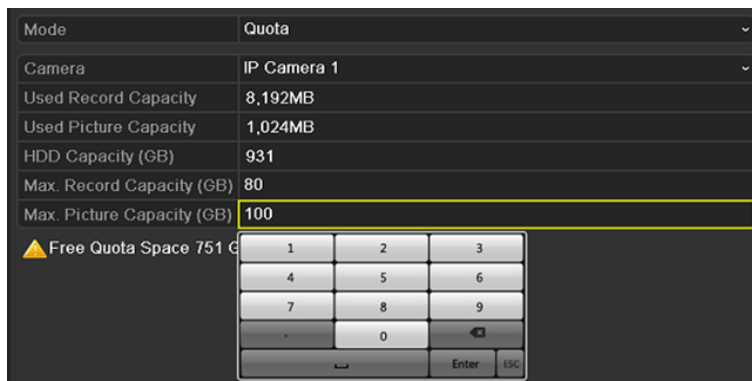

Figure 12-17 Configure Record/Picture Quota
Step 4 Enter the storage capacity in the text fields of **Max. Record Capacity (GB)** and **Max. Picture Capacity (GB)**, as shown in Figure 12-17.